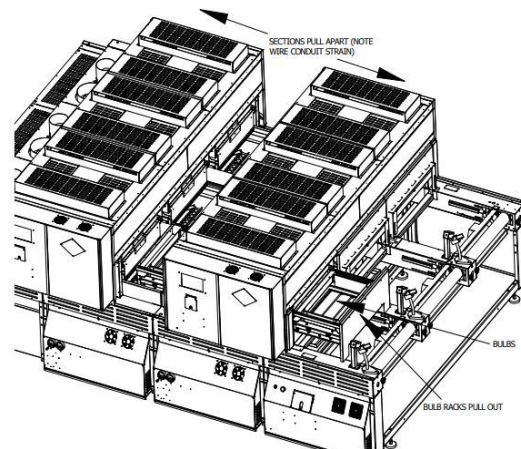

Figure 6: Bulb Access
- 3) Pull sections apart if necessary to access the bulb rack with a bad bulb (Figure 6). Note wire conduit strain while moving sections.